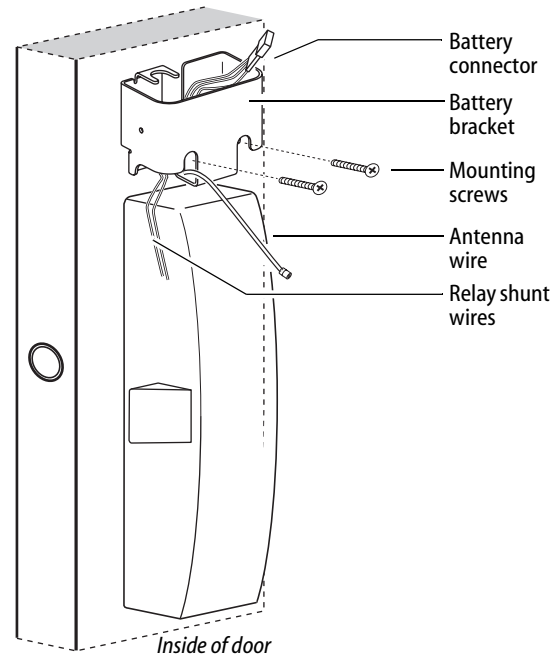

Figure 28 Installing the battery bracket on the door
- 1 Position the battery bracket on the inside of the door as shown in Figure 28.